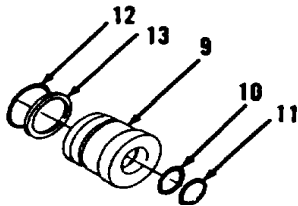

Figure 15-5.
8. Remove seals (10 and 11), preformed packing (12) and ring (13) from head (9, Figure 15-5). Discard seals (10 and 11) and preformed packing (12).
3. Coat ring (13), new preformed packing (12) and new seals (11 and 10, Figure 15-5) with lubricating oil.
4. Using seal installer, install ring (13), new preformed packing (12) and new seals (11 and 10) in head (9). Lip of seal (11) is toward inside of head (9). Lip of seal (10) is toward outside of head (9).